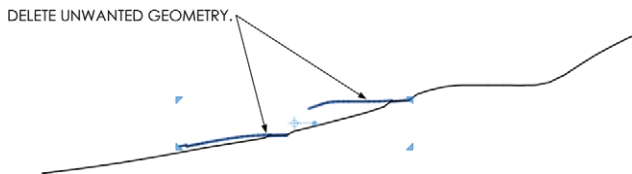

Figure 15.35 Delete the unnecessary lines.
6. Delete the unwanted geometry as shown in Figure 15.35.